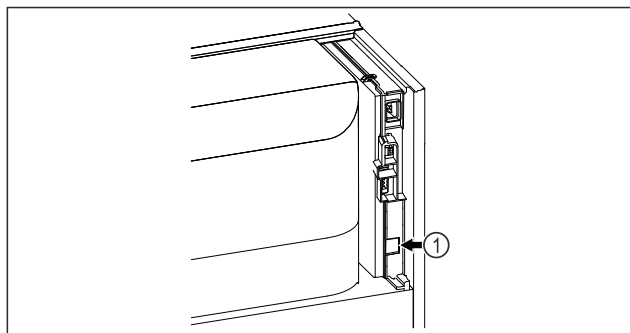

Fig. 74
- ❑ SmartModule Fig. 74 (1) is in use.